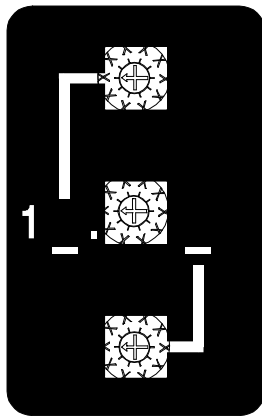

Figure 8.1
screwdriver and turn the switch so that the arrowhead on the slot is pointing to the desired number. Set the switches in the following manner: If the desired battery voltage is 13.38 volts, set the top switch to 3, the middle switch to 3, and the bottom switch to 8 (see the figure 8.1). This will provide you with the proper charging voltage. The tens digit is always a one (1) and cannot be changed. **BE SURE EACH SWITCH IS SET ON A NUMBER AND NOT BETWEEN NUMBERS.** If a switch is set between numbers, the output current will go to zero and the yellow charging LED will flash.